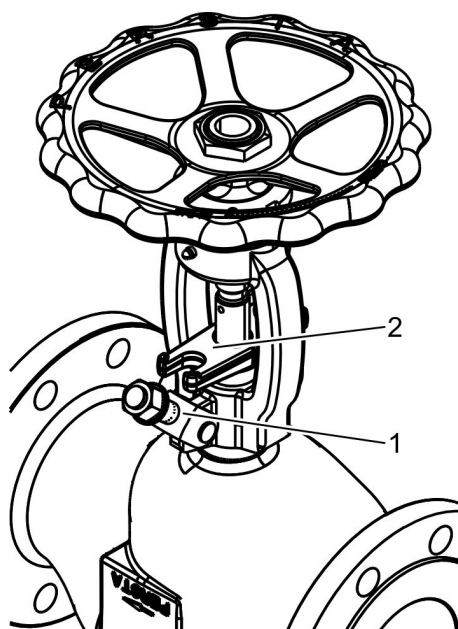

Fig. 40: Turning down the packing bolts
4. ➔ Undo the nuts on the gland follower flange (Fig. 40/2) until the eyebolts (Fig. 40/1) can be folded to the side.
5. ➔ Push the gland follower flange (Fig. 40/2) up as far as possible.